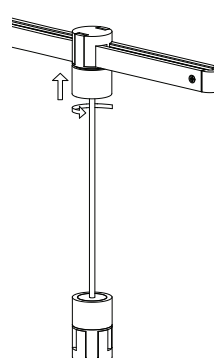

Fig. 6
3. Press the **Hanger Rod** up against the Hanger Hub and screw in the **Hanger sleeve**. Be sure that the brass contacts on the Power Bar Hanger Hub are touching those on the Hanger Rod. (Fig. 6). NOTE: Do not fully tighten.